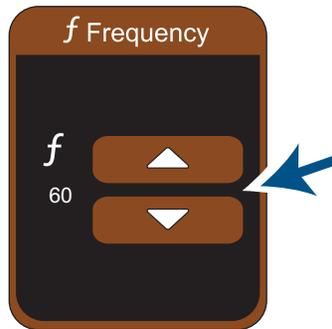

Figure 22. Increasing or decreasing the frequency
3. Tap  or  to increase or decrease the frequency of the program (Figure 22).